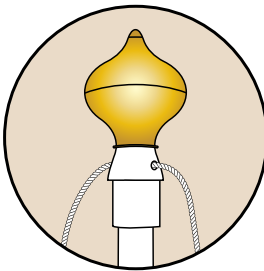

Fig 5,
6. Thread the halyard through the finial. Push the finial onto the top of the pole. (See Fig 5)